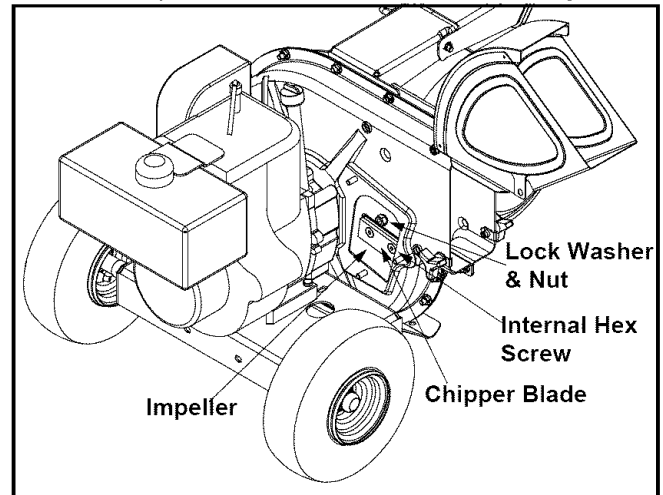

Figure 10
- Remove the blade by removing the internal hex screws, lock washers, and hex nuts which secure it to the impeller. Retain the hardware. See Figure 10.